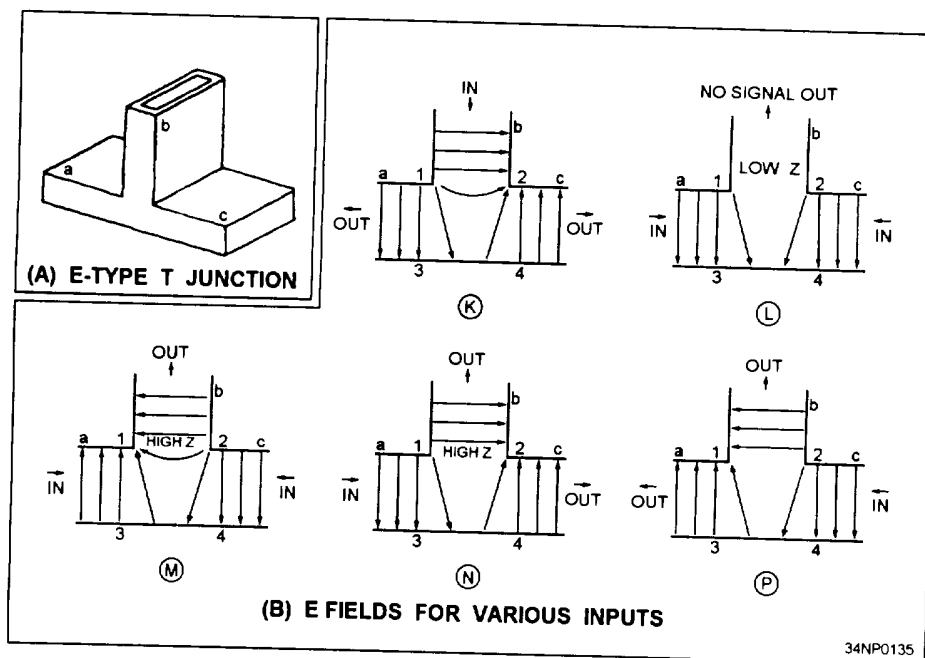

Figure 3-62.—E fields in an E-type T junction.
**E-TYPE T JUNCTION.**— An E-type T junction is illustrated in figure 3-62, view A.
Figure 3-62, view B, illustrates cross-sectional views of the E-type T junction with inputs fed into the various arms. For simplicity, the magnetic lines that are always present with an electric field have been omitted. In view K, the input is fed into arm b and the outputs are taken from the a and c arms. When the E field arrives between points 1 and 2, point 1 becomes positive and point 2 becomes negative. The positive charge at point 1 then induces a negative charge on the wall at point 3. The negative charge at point 2 induces a positive charge at point 4. These charges cause the fields to form 180 degrees out of phase in the main waveguide; therefore, the outputs will be 180 degrees out of phase with each other. In view L, two in-phase inputs of equal amplitude are fed into the a and c arms. The signals at points 1 and